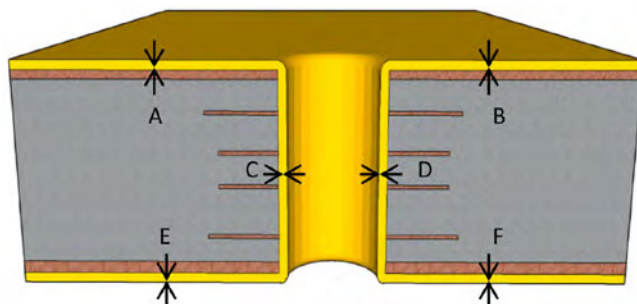
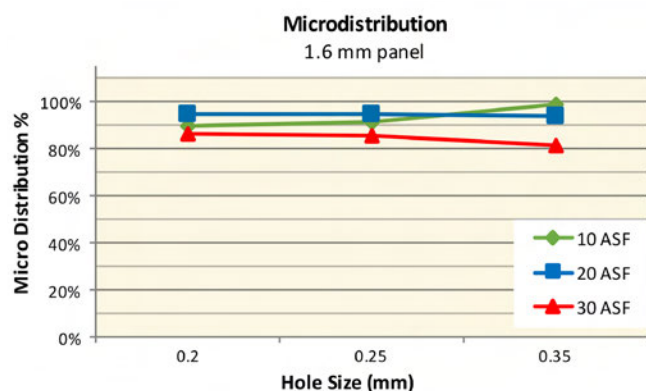

Figure 1: Cross-section of plated panel.
Figure 2: Micro distribution for 1.6 mm panel aspect ratio: 8:1, 6.4:1, and 4.6:1.
used to provide optimum penetration and a quick cure rate (10–15 minutes). After the sections hardened they were subjected to grinding, polishing, and microscopic inspection to obtain micro distribution. Figure 1 shows a cross-section of a through-hole indicating the points of thickness measurements.
Microdistribution (MD) is the ratio between the average plated thicknesses in the middle of the hole to the average plated thickness on the surface as shown in Figure 1. Care should be taken when using MD % due to the difference in the board thickness, as the same diameter hole will be more difficult to plate in the thicker board as shown in Figures 2, 3, and 4. At the same current density, the same diameter hole has lower MD in a thicker board. For instance, a 0.2 mm hole in a 1.6 mm board at 10 ASF gave 90% MD measurement, while a 0.2 mm hole in a 2.4 mm board at 10 ASF gave only 75% MD measurement. Furthermore, a 0.2 mm hole in a 3.2 mm board gave 61% MD. Therefore, aspect ratio should be used to define the difficulty of the plating.
This phenomenon is clearly shown in Figures 2, 3, and 4. As an example in Figure 2, at 10 ASF a 0.35 mm hole showed 99% MD whereas when the CD increased to 20 ASF the MD dropped to 95% for the same hole in the same board thickness and further, at 30 ASF the MD dropped to 87%.